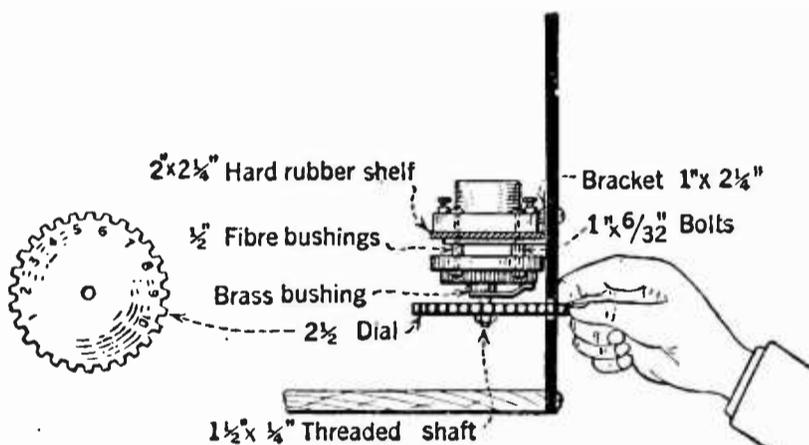

FIG. 4
**T**HE experimenter who wishes to incorporate a refinement and a novel mode of adjustment in his receiver may follow the suggestions in the drawings, Fig. 4.